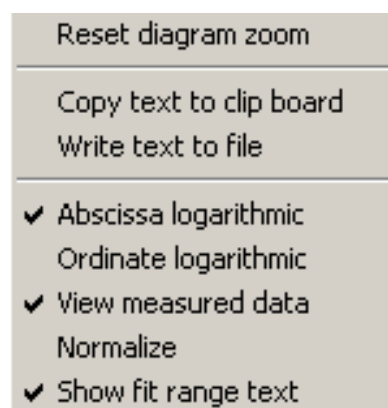

Fig. 4-118 Context menu of the Fit diagram
- Click on the diagram with the **right** mouse button to open the context menu (see Fig. 4-118).